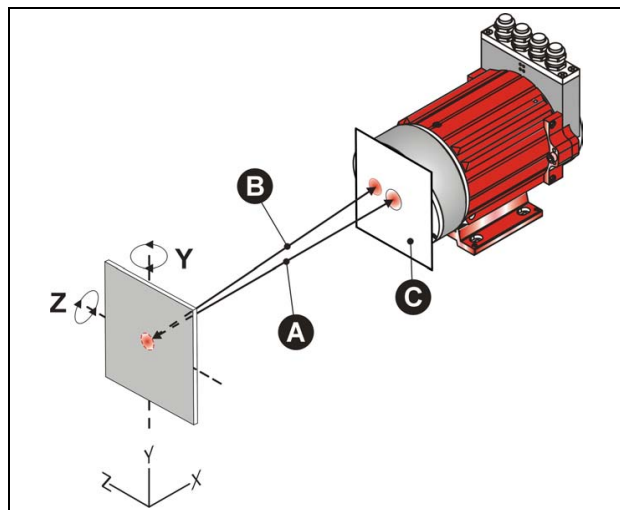
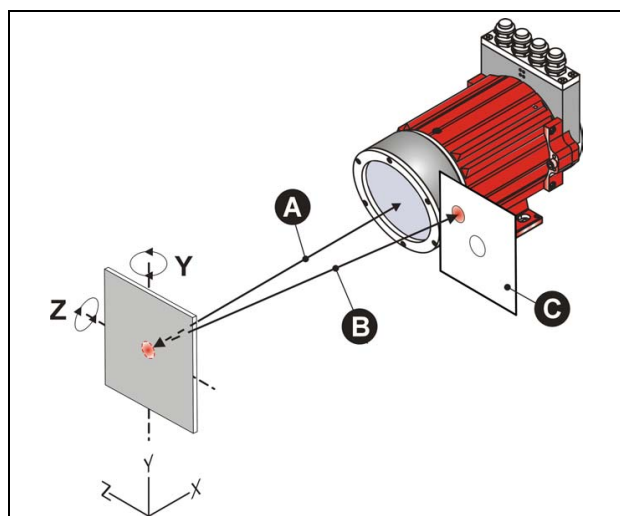

Figure 3: Detection of the surface reflectivity
Figure 4: Transmitting away the surface reflectivity
- **Figure 3: Detection of the surface reflectivity:**
- Centering paper (C) in front of the laser optics so, that the laser beam can unhinderedly emerge by an approx. 2 cm hole. Now, the interfering signal (B) should get visible on the paper (C). To the better location of the interfering signal (B) the reflector foil can be moved also a little. Here it is valid: angle of incidence = angle of reflection
- **Figure 4: Transmitting away the surface reflectivity:**
- Rotate the reflector foil in the Y- or in the Z-axis so, that the interference signal (B) always is outside the laser lens. Nevertheless keeping the inclination of the reflector foil as low as possible to minimize measuring errors caused by misalignments in the procedure movement. For example, if the light spot drifts on the reflector foil around, small differences arise as a result of the oblique position.